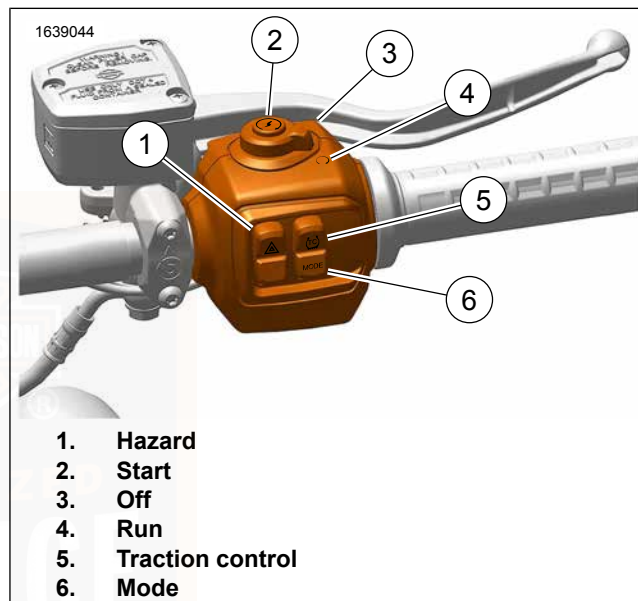

Figure 42. RHCM (Without Infotainment)
See Figure 42. The hazard switch (1) is used to leave a stranded motorcycle in the 4-way flashing mode. With the flashers, the motorcycle can be left with the ignition off until assistance is found.
See Figure 42. Press the mode button (6) to change the ride mode.
See Figure 42. Position the engine OFF/RUN switch to the Off position (3) to shut off the engine.
See Figure 42. Push the engine OFF/RUN switch to run (4) to enable engine start and run. The engine OFF/RUN switch must be in the run position to start or operate the engine.
See Figure 42. Position the engine OFF/RUN switch to the Run position (4) to allow the engine to start.
1. Switch the OFF/RUN switch to the run position (4). Shift the transmission to neutral. The neutral (green) indicator illuminates. See Starting the Engine (Page 112).
2. Press the start switch (2) to operate the starter motor.
See Figure 42. The traction control button (5) activates and deactivates the traction control system.